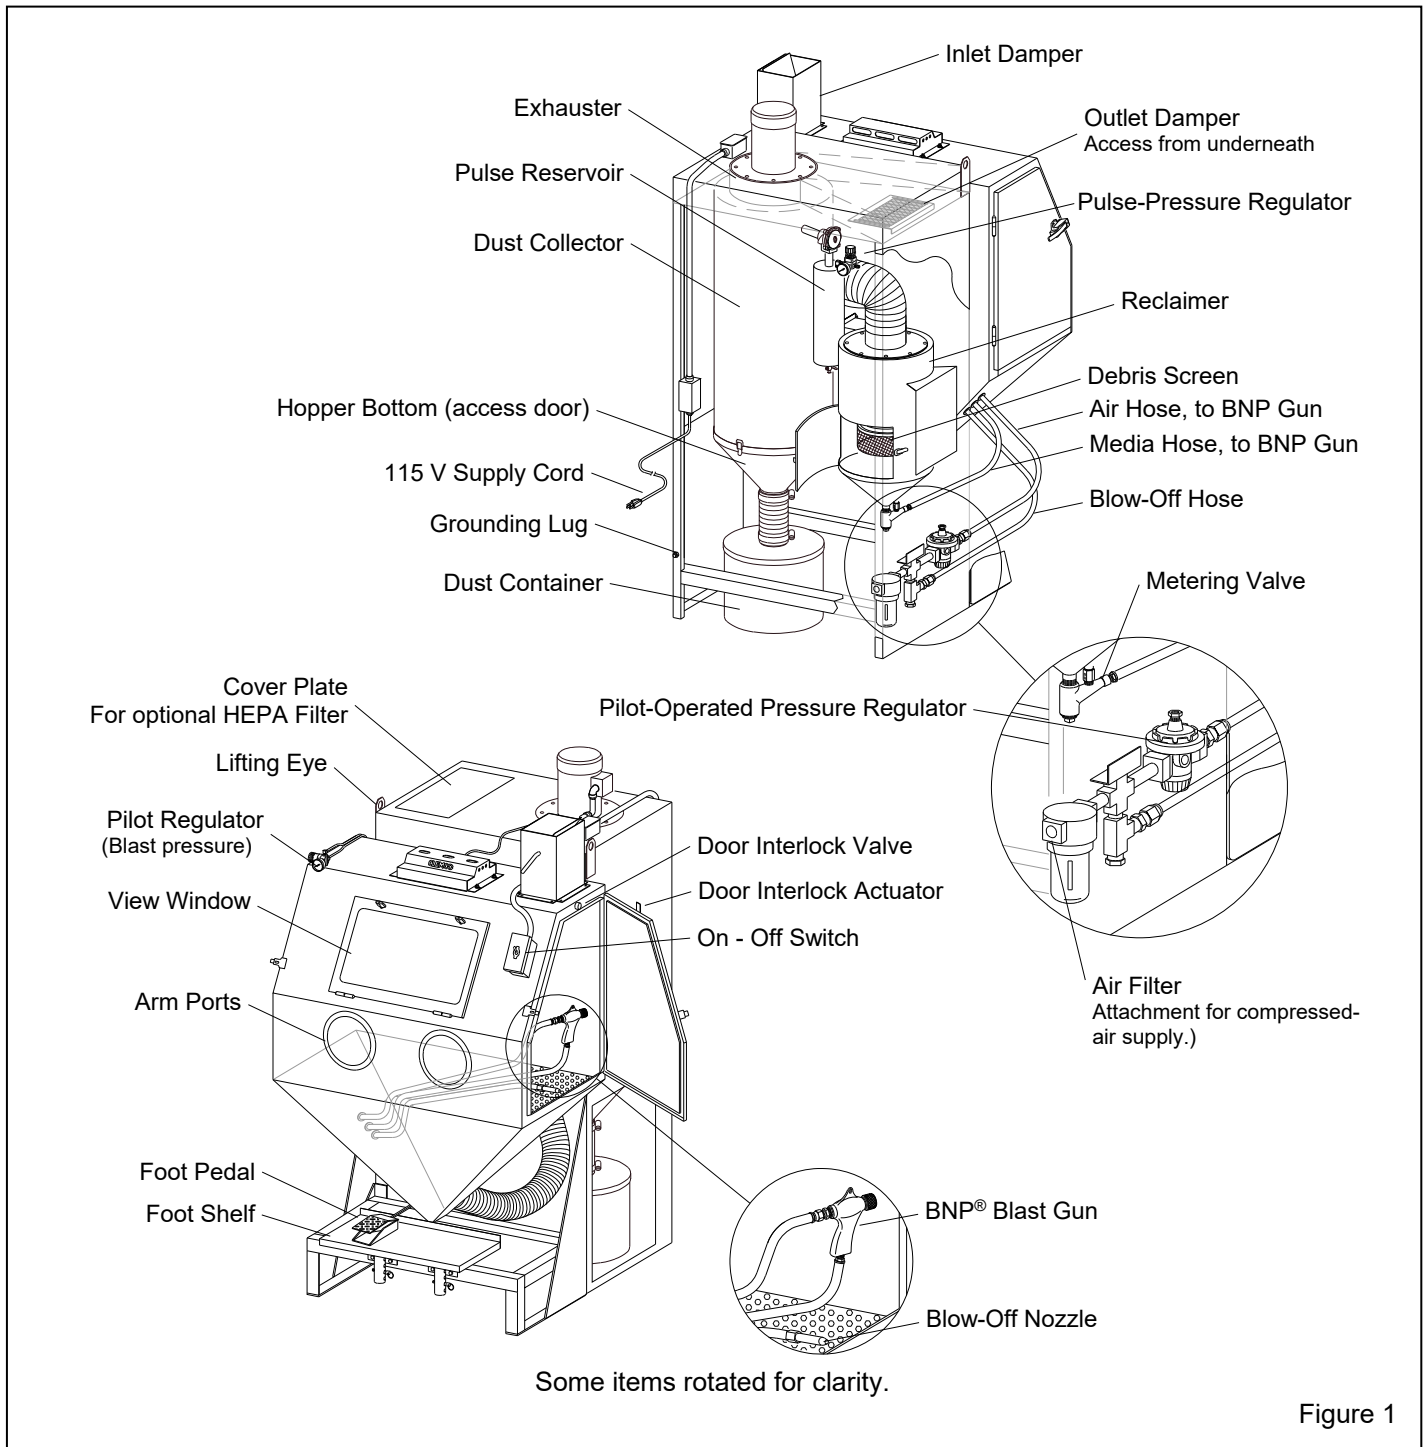

Figure 1
1.4.1 Refer to Figure 1 for arrangement of components. The MediPulse cabinet encloses the blasting environment to provide efficient blasting while maintaining a clean surrounding work area. Production rates are influenced by size of air jet and nozzle, compressor output, working pressure, type and size of media, and angle and distance of the nozzle from the blast surface. MediPulse 2342se cabinet consists of two major components.